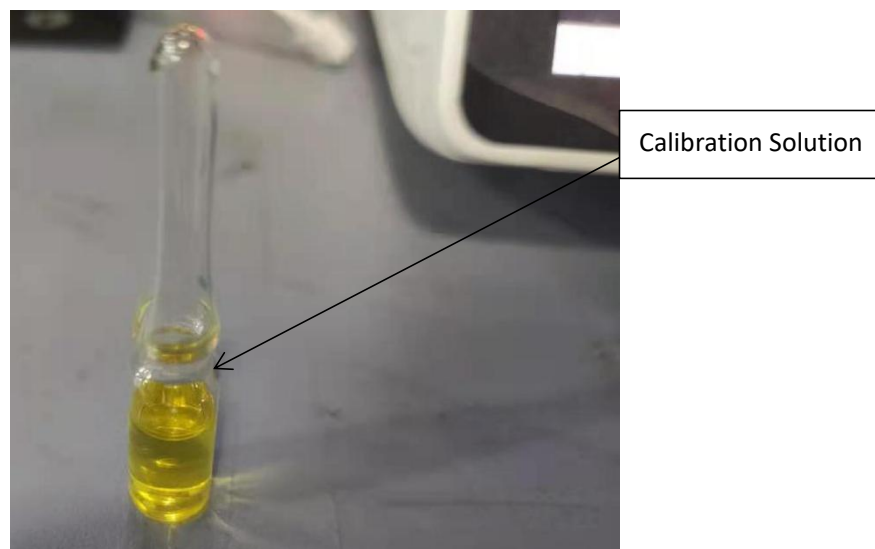

Figure.3
3. Open a dose of calibration solution, as the Figure.3 shows.